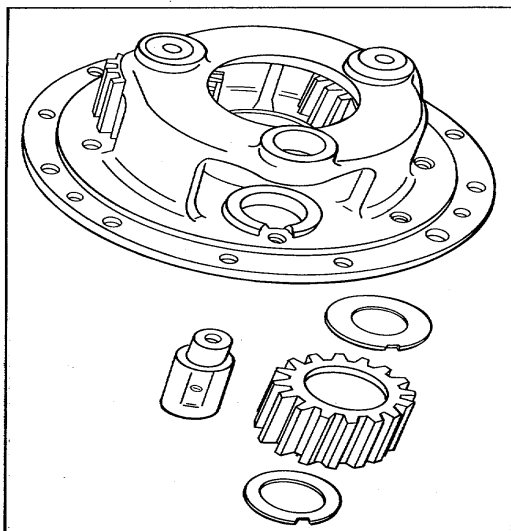

Figure 7.
2. Remove the planet gears and their respective thrust washers (refer to Fig. 7).